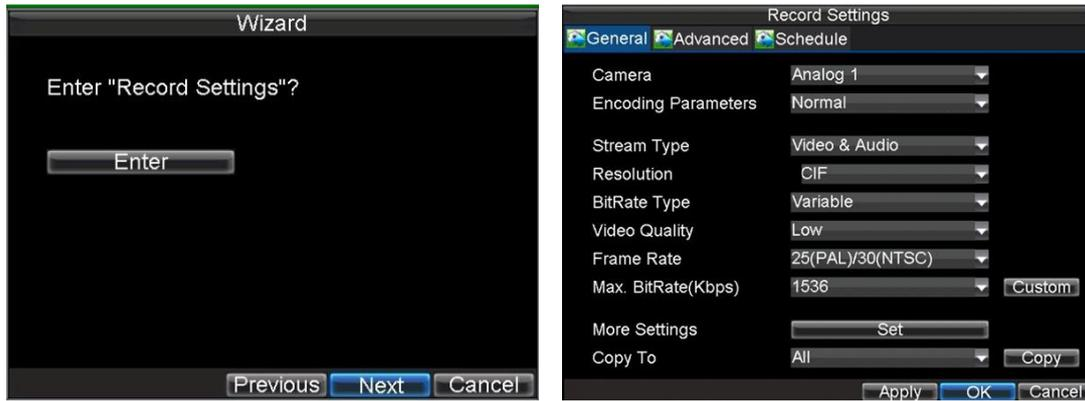

Figure 5. Record Settings
9. Click **Next** button to enter the **Record Settings** dialogue box, as shown in Figure 5.